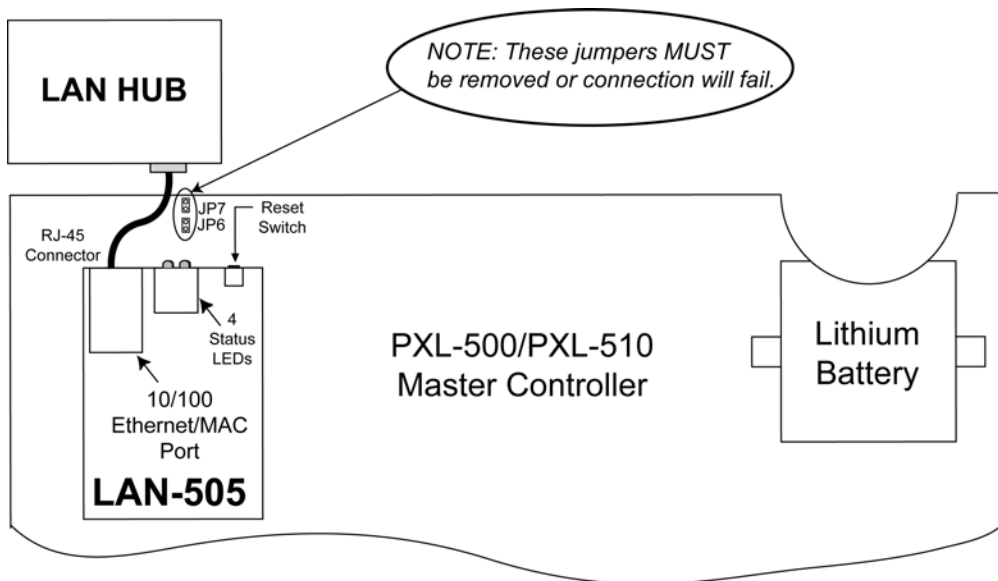

Figure 2: LAN-505 Connection Diagram
2. On the master controller, remove the jumpers from JP6 and JP7 (see Figure 2).
4. Insert the LAN-505's U6 connector pins (located on the underside of the LAN-505) into the PXL-500's TB13 (see Figure 2 for location of connection).